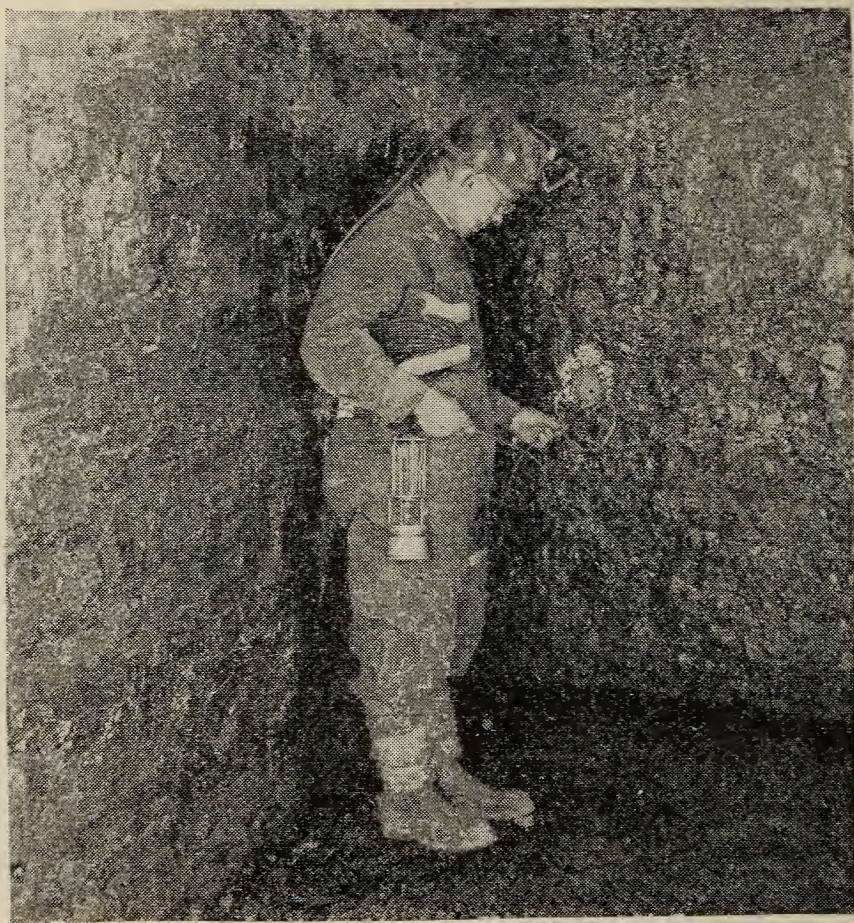

FIGURE 54.—The ends of detonator leg wires and blasting cable are staggered to avoid the likelihood of short circuits and resulting misfires.
A. It is made by short-circuiting the end of the leg wires. (See fig. 54.)